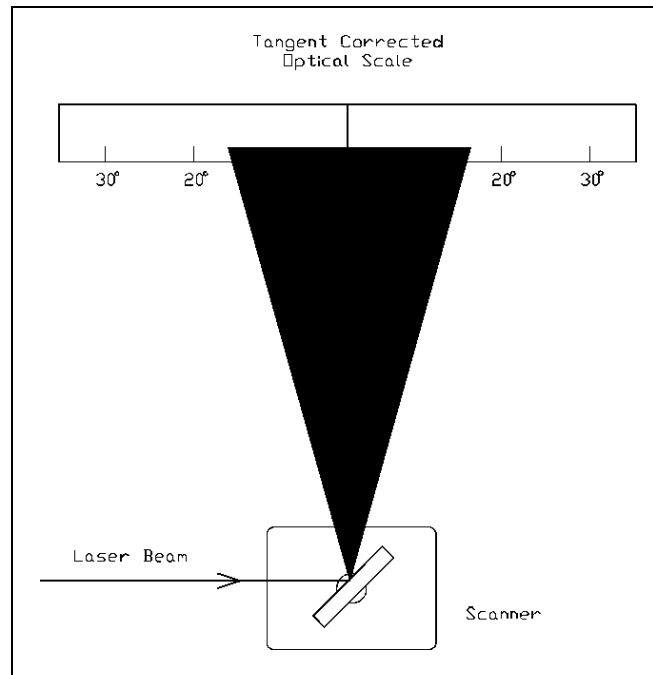

Fig. 4-1: Optical bench preparation
- II.) Optical bench (see Fig. 4-1: Optical bench preparation on page 6)
- III.) Calibrated angular scale (see Fig. 4-1: Optical bench preparation on page 6)